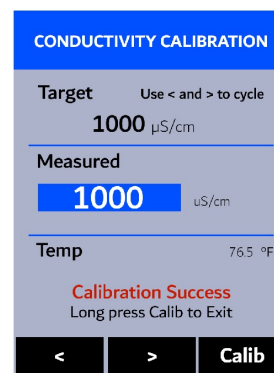

Figure 20.
10. The message “**Calibration Success**” will appear towards the bottom of the display (Figure 20).